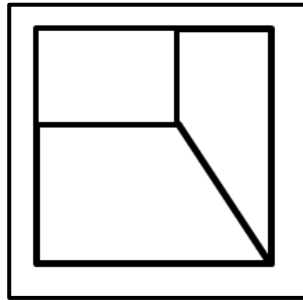

FIGURE 11.4.1
11.4 Identify the hoppers shown in FIGURES 11.4.1 and 11.4.2 below.